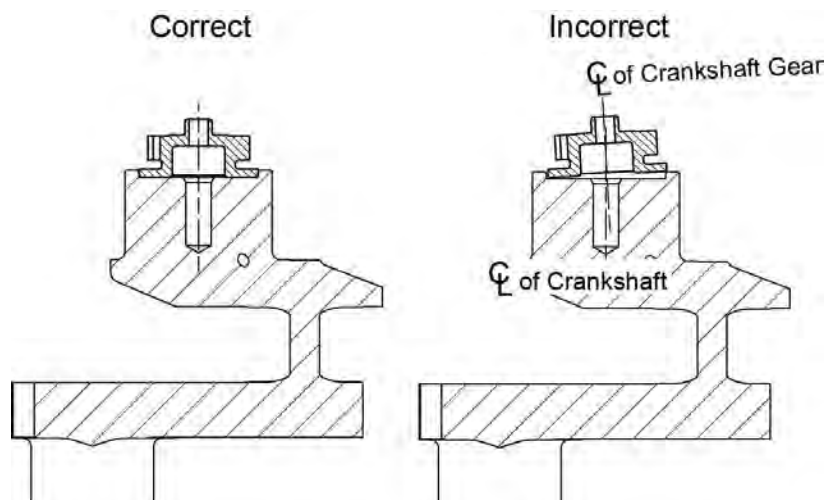

Figure 39
⚠ CAUTION: FOR CORRECT ENGINE OPERATION, THE CRANKSHAFT GEAR MUST BE INSTALLED CORRECTLY WITH NO GAP BETWEEN THE MATING SURFACES OF THE COUNTERBORED-END OF THE CRANKSHAFT AND THE CRANKSHAFT GEAR PILOT FLANGE (FIGURE 39).
- (9) Make sure the crankshaft gear seats firmly and is perpendicular (not at a slanted angle) to the crankshaft as shown in Figure 39: